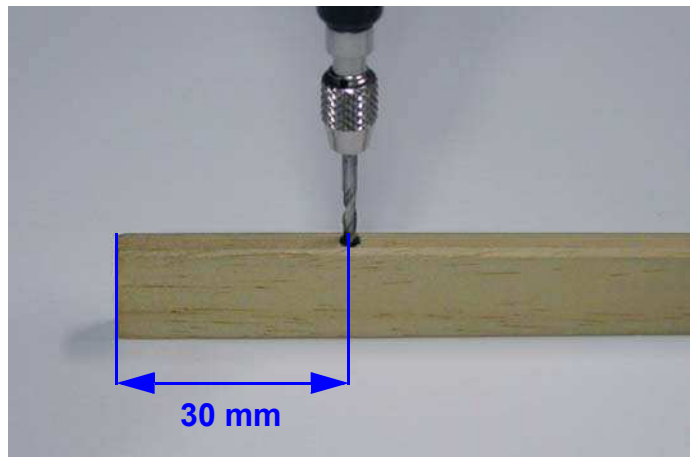

Fig.71: Make a passing hole here.
- **30 mm** inside the wider end of the shaped strip, drill **2 mm** diameter passing hole as shown in figure 71;